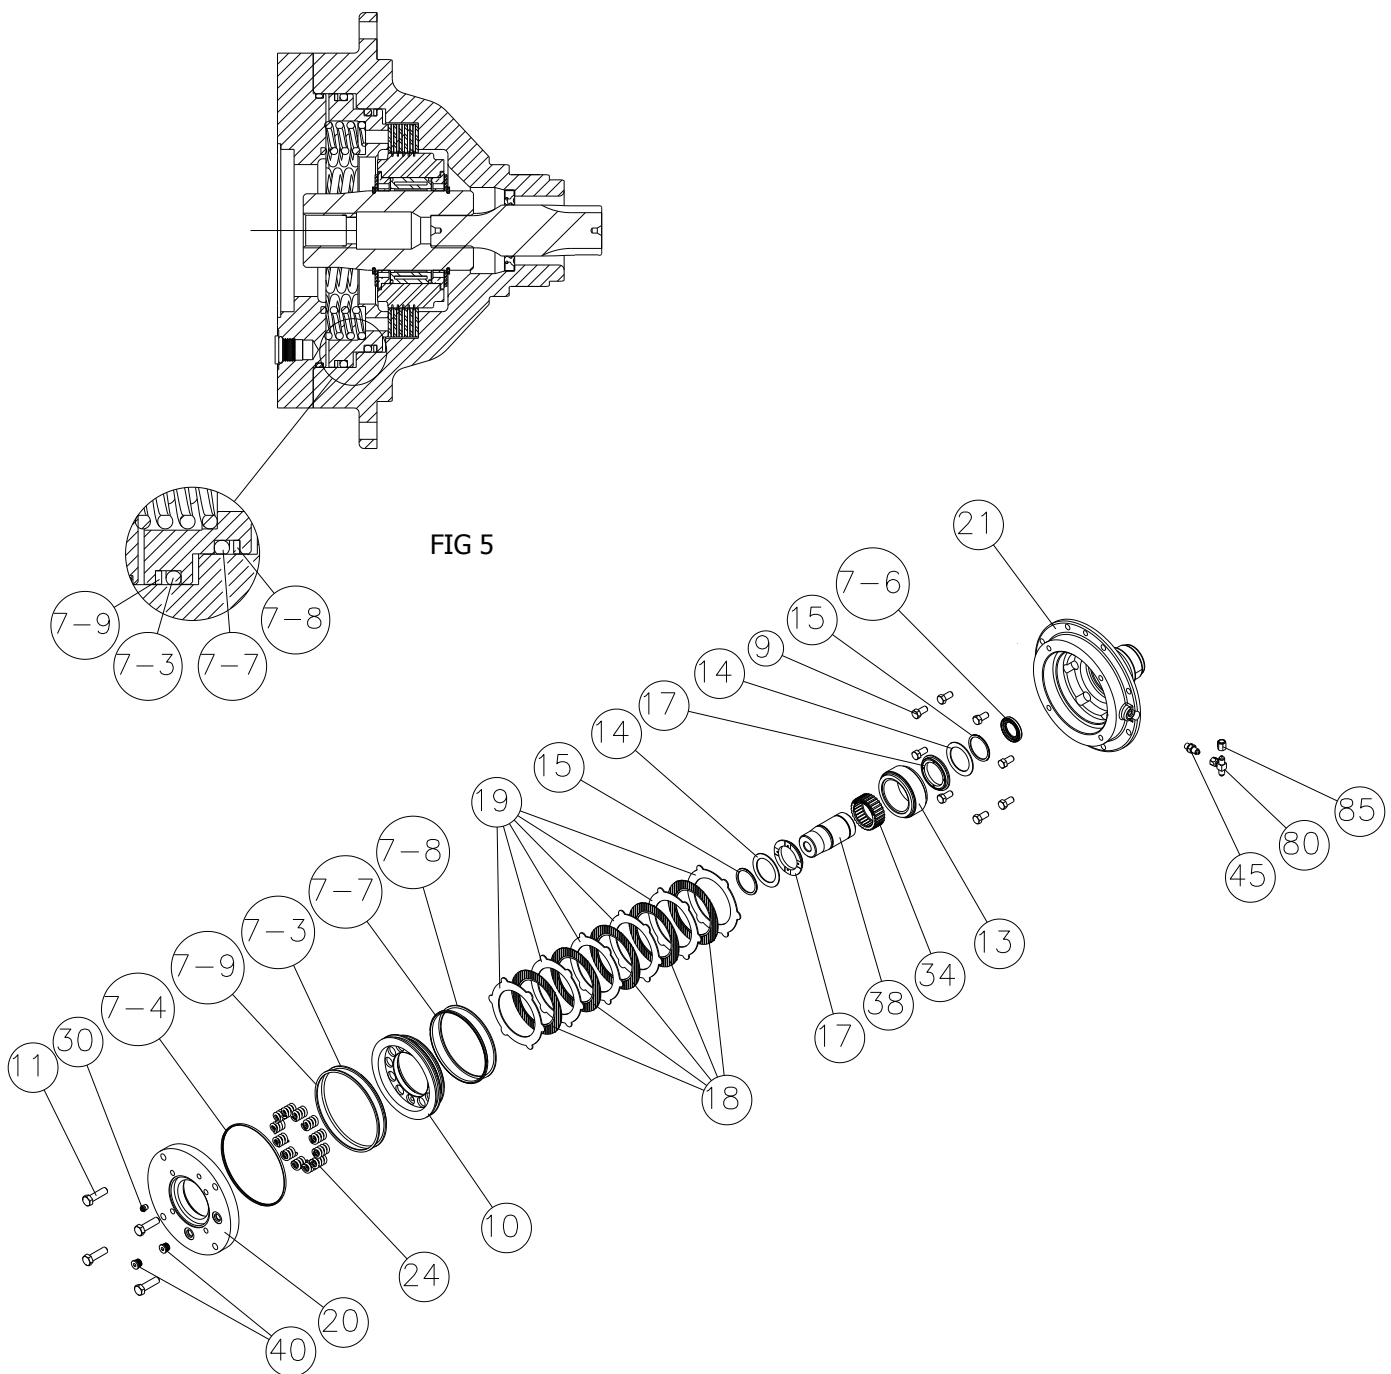

FIG 5
12. Coat the new o-rings and backup rings (*Items 7-3, 7-9, 7-7, & 7-8*) with light oil and install onto the piston (*Item 10*). See Fig. 5 for proper o-ring/backup ring installation.